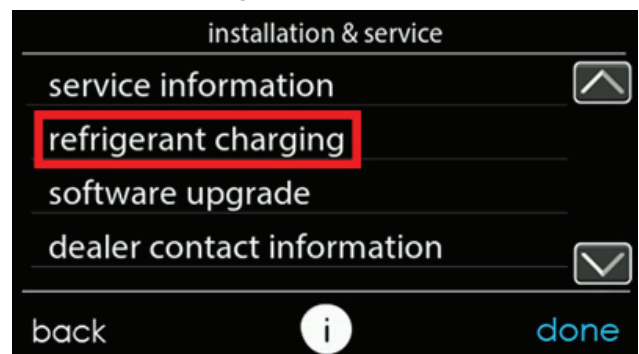

Fig. 12 – Select Refrigerant Charging
4. Navigate to the service area by pressing MENU from main screen (see Fig. 11). Scroll down to service icon and hold until icon turns green. Once in the "Installation and Service" menu, select "Refrigerant Charging" (see Fig. 12).
2. In the "installation and service" menu of the UI (see Fig. 11), go to "refrigerant charging" and then "pump down" (see Fig. 11 & Fig. 12).
2. In the "installation and service" menu of the UI (see Fig. 11), go to "refrigerant charging" and then "evacuation" (see Fig. 12) and Fig. 13).